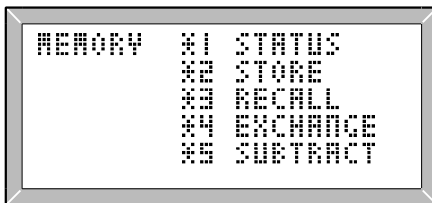
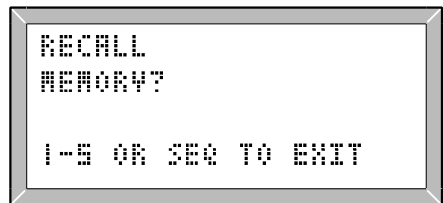

Fig. 3.12 Memory Operations Menu
Fig. 3.13 Recalling Results
Up to six sets of stereo sequence results can be held in non-volatile memory for later comparison, printing or transfer to a computer. A menu (fig 3.12), obtained by pressing **[*][MEM]** from PAGE or SEQ mode, lists five operations: **[*][2]** saves the results from the 'working' memory (0) to a specified memory (1 to 5). **[*][3]** recalls results (fig 3.13) from a specified memory (1 to 5) to the working memory (0). **[*][1]**, **[*][4]** and **[*][5]** are for status (show the source ID and segment list for a memory), exchange (gives, instant comparison between memories) or subtract (each sample in a chosen memory is subtracted from the sample in memory 0). Note that these operations can also be carried out by pressing **[*][1]** to **[*][5]** directly without entering the menu (with the small restriction that **[*][1]** cannot be used from the graph page). When an operation has been selected the memory number should be entered by pressing 1-5. At this stage, the operation can be aborted by pressing **[SEQ]**, or a different operation can be selected by pressing the appropriate **[*]** key (**[*][1]** to **[*][5]**).
Usually the unit can hold six complete sets of results in memories 0 to 5 (memory 0 being the main or working memory). However, the number of results memories is reduced when user tolerances are defined (section 5.6) or when the unit is configured for multiple results compartments (section 4.18). In either case, the range of memory numbers available is always shown (as in fig 3.13).